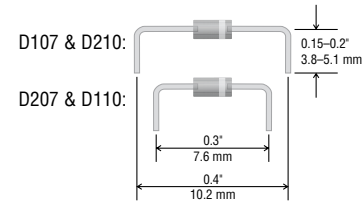

Figure 1. Prepare the leads of the new zener diodes.
2. Prepare the new zener diodes as shown in Figure 1.